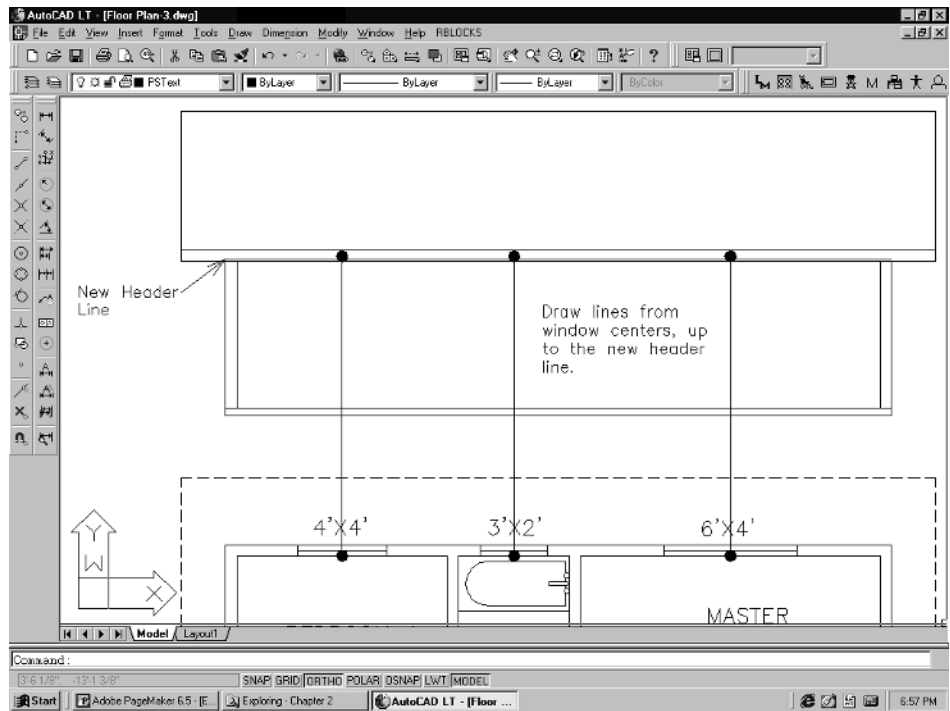

Figure 4-16
3. You will need to reestablish the header height line. To do this, offset the floor line up **6'-8"**. Then, as we did in the front elevation, draw lines from the center of each of the windows in the back wall up to the header line. See Figure 4-16.